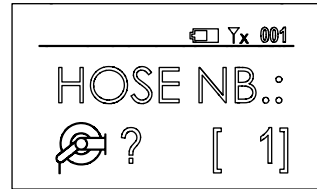

Fig. 4
2. Next the configuration screen is shown automatically (figure 4). The unit remains waiting for the hose reel number that you want to associate.